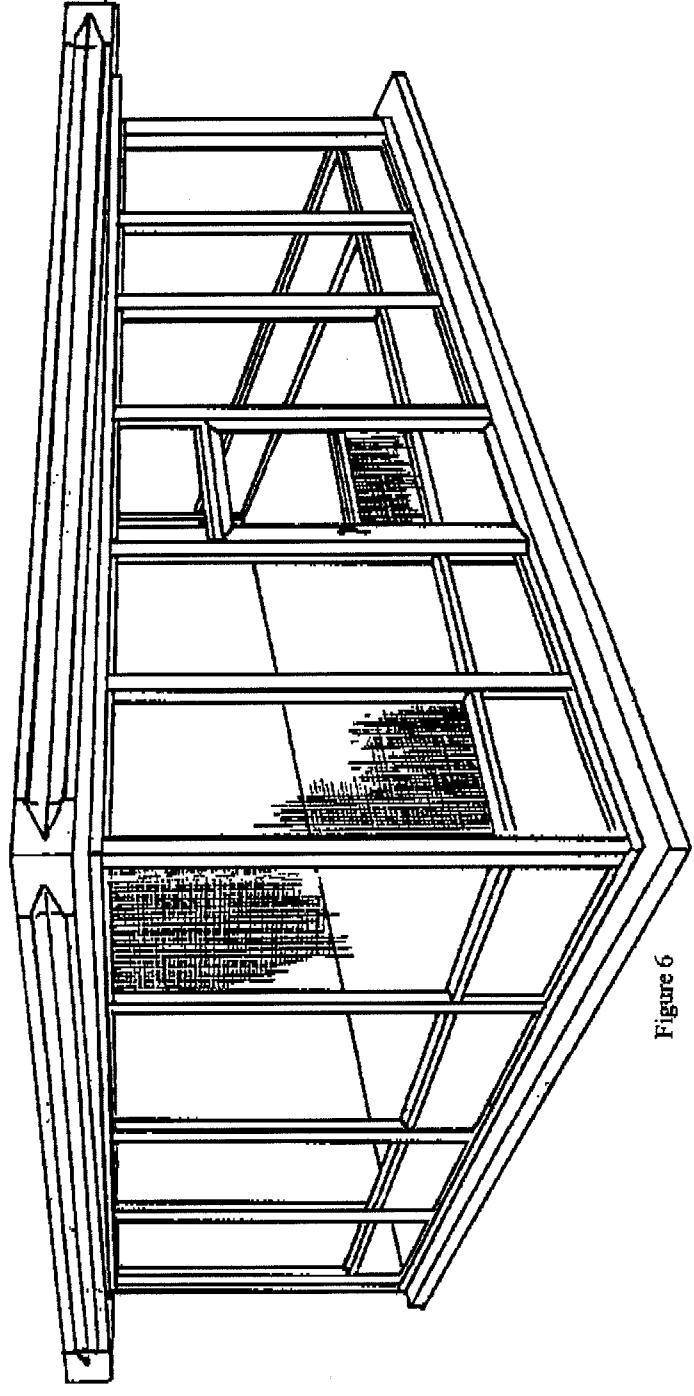

Figure 6
Step 6: INSTALL SCREENING (Figure 6)
Step 7: INSTALL SCREEN DOOR IN OPENING (Figure 6)